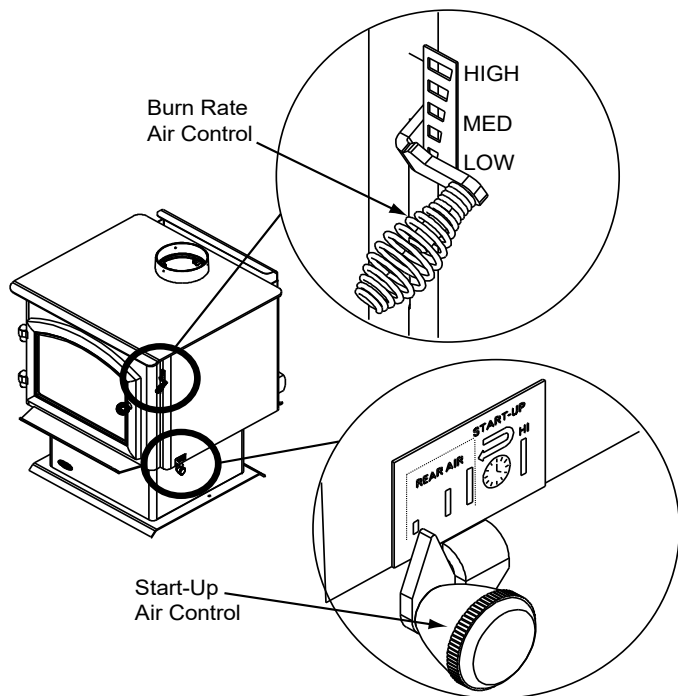

Figure 10.1
The next stage of burning, the secondary stage, is the period when the wood gives off flammable gases which burn above the fuel with bright flames. During this stage of burning it is very important that the flames be maintained and not allowed to go out. This will ensure the cleanest possible fire. If the flames tend to go out, it is set too low for your burning conditions. The air control located at the upper right hand corner is used to adjust for burn rates. This is called the Burn Rate Air Control (Figure 10.1).
This air supply enters at the upper front of the firebox, near the top of the glass door. This preheated air supplies the necessary fresh oxygen to mix with the unburned gases, helping to create second, third and fourth combustions. This air is regulated by the Burn Rate Air Control. When the control is moved all the way up it is on the High setting and when moved all the way down it is on the Low setting (Figure 10.1).
- Then activate the ACC timer system by pushing the knob all the way back toward the appliance to “HI” then pull forwards towards the front of the appliance until the knob stops (**Figure 10.1 on page 10**).